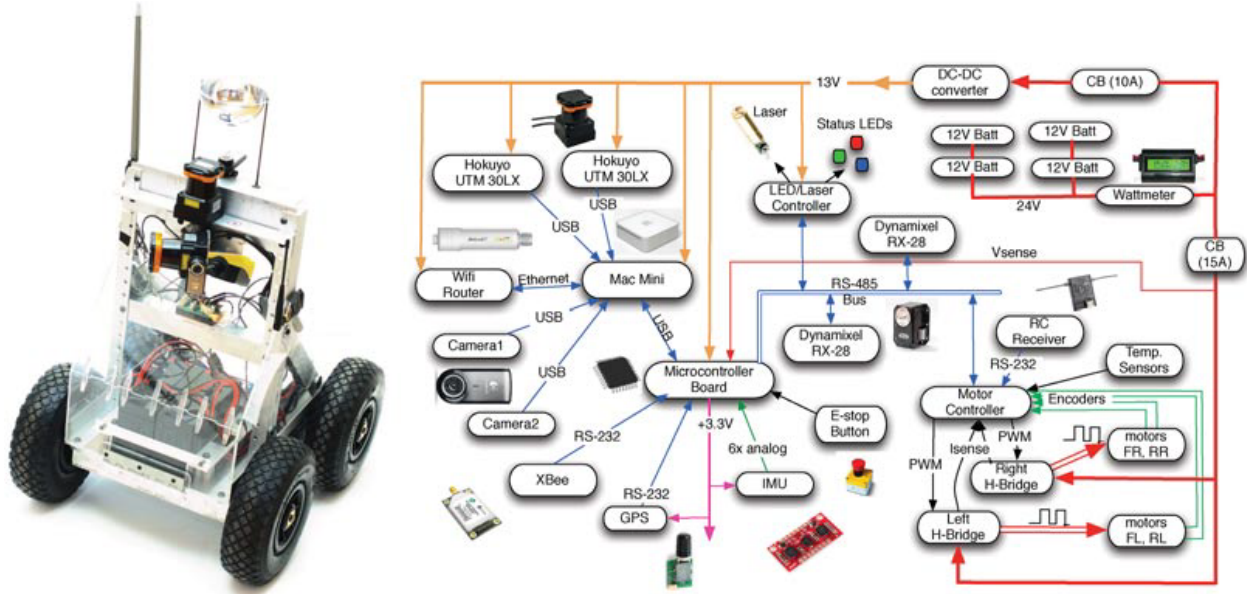

Figure 1: Differential-drive robot, equipped with encoders, IMU, 2-D LIDAR scanner, and an RGBD camera.
- **Robot:** A description of the differential-drive robot is provided in docs/RobotConfiguration.pdf. Fig. 1 shows a schematic of our robot. Even though the description file says that the origin of the robot body frame is at the back axle, it is arbitrary and you can choose your own origin. Using the **geometric center of the robot body might yield better results** because the differential-drive motion model assumes that the robot is rotating around its center.